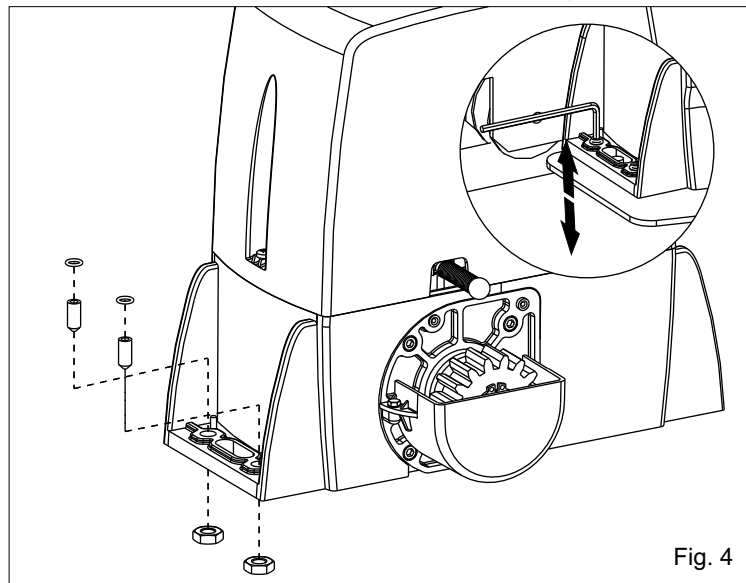

Fig. 4
4.1. Insert the 4 grains into the special holes, so that it is possible to adjust the motor reducer height on the plate (Fig. 4).